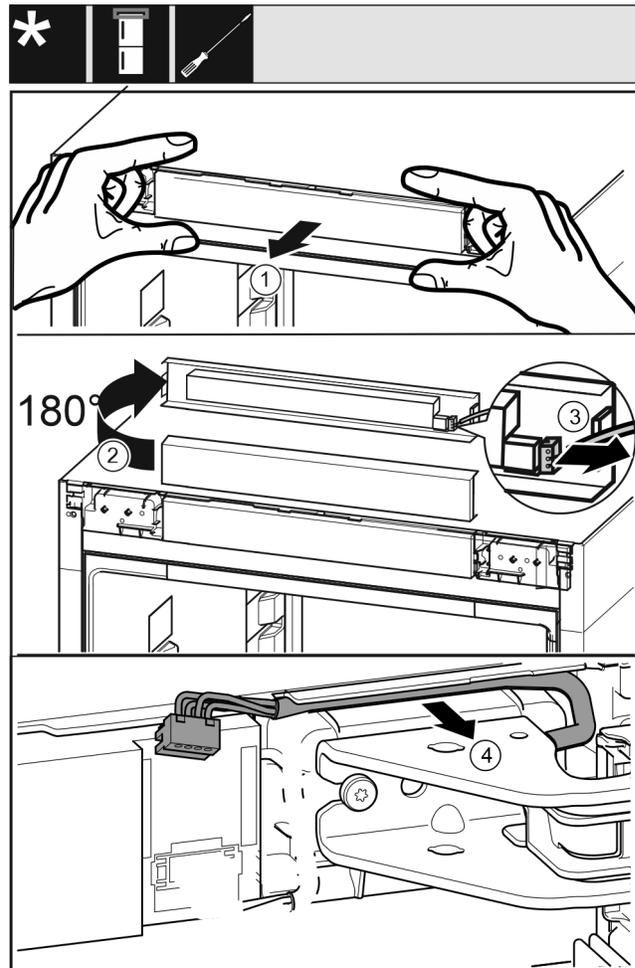

Fig. 17
- ▶ Loosen the control panel of the appliance carefully to the front. Fig. 17 (1)
- ▶ Turn the control panel up by 180°. Fig. 17 (2)
- ▶ Press the latching lug backward and pull out the plug carefully. Fig. 17 (3)
- ▶ Carefully remove the cable over the bearing bracket from the guide. *Fig. 17 (4)*